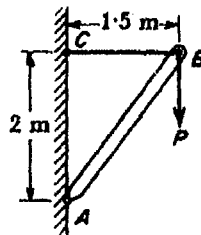

Fig.2 (b)
- (b) For the simple structure shown in Fig. 2(b), member BC is a steel wire having diameter  $d = 3$  mm and member AB is a wood strut of 2.5cm-square cross-section. Calculate the horizontal and vertical components of the displacement of point B due to a vertical load  $P = 200$  kg acting as shown. For steel,  $E_s = 2 \times 10^6$  kg/cm2 for wood,  $E_w = 10 \times 10^4$  kg/cm2.